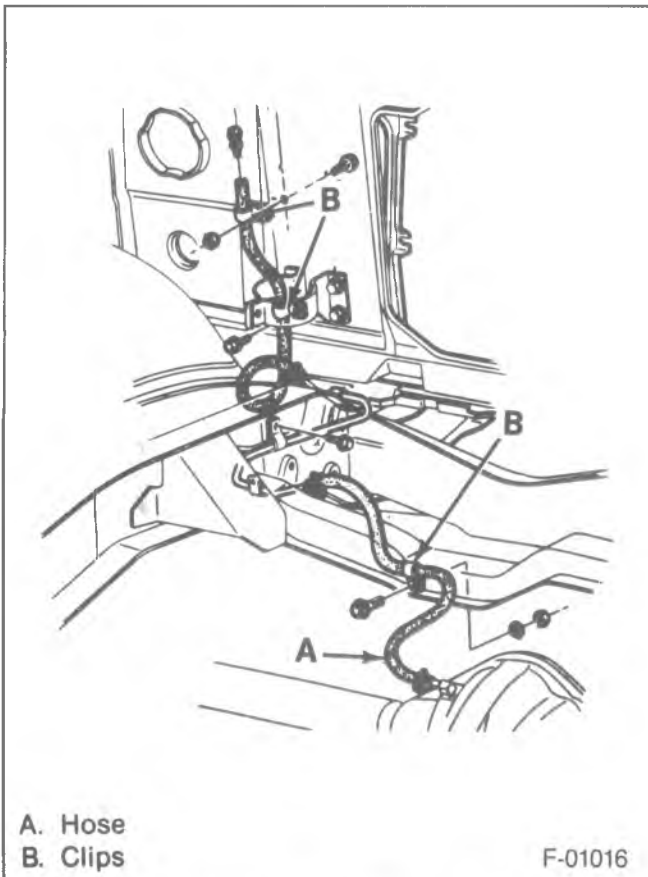

Figure 2—Axle Vent Hose Routing
- 3. Brake caliper (40).
- Support the brake caliper (40) so as not to stretch or damage the brake hose.
- 6. Axle vent tube and clips (figure 2).
2. Axle vent tube and clips. Refer to figure 2.
5. Brake caliper (40).